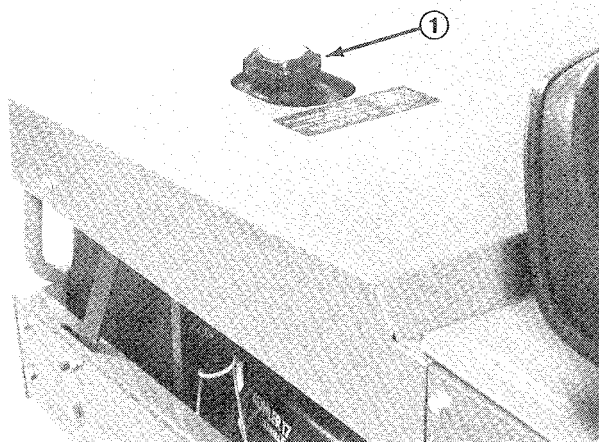

Figure 9
1. Remove cap from the fuel tank (Fig. 9) and fill the 5 gallon tank to within 1 inch from the top with unleaded gasoline. Install fuel tank cap tightly.